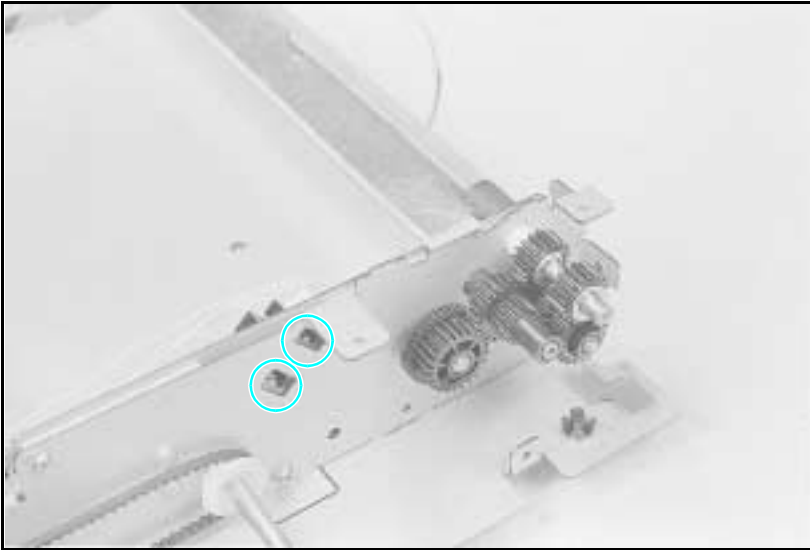

Figure A-22 Holding Tray Paper Sensor
- 2 Remove the (2) screws from the stepper motor mount and remove mount. (This provides access to the paper sensor latches.)
- 3 Squeeze the (2) latch points of the paper sensor to release (see Figure A-22).